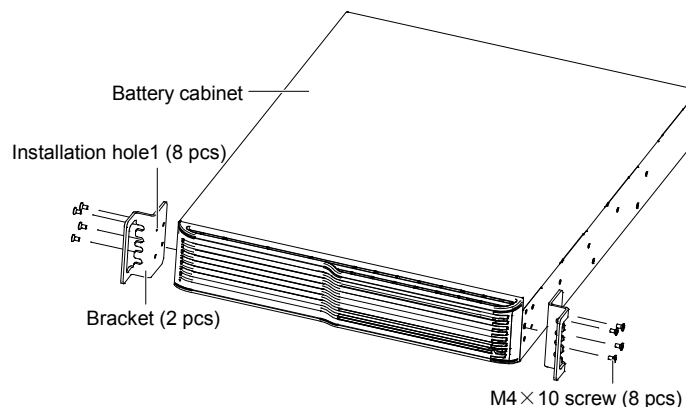

Figure 2-7 Installing brackets
1. Take out two brackets and eight M4 × 10 screws from the accessories, and fix the brackets onto the battery cabinet using the screws through installation hole1, as shown in Figure 2-7.